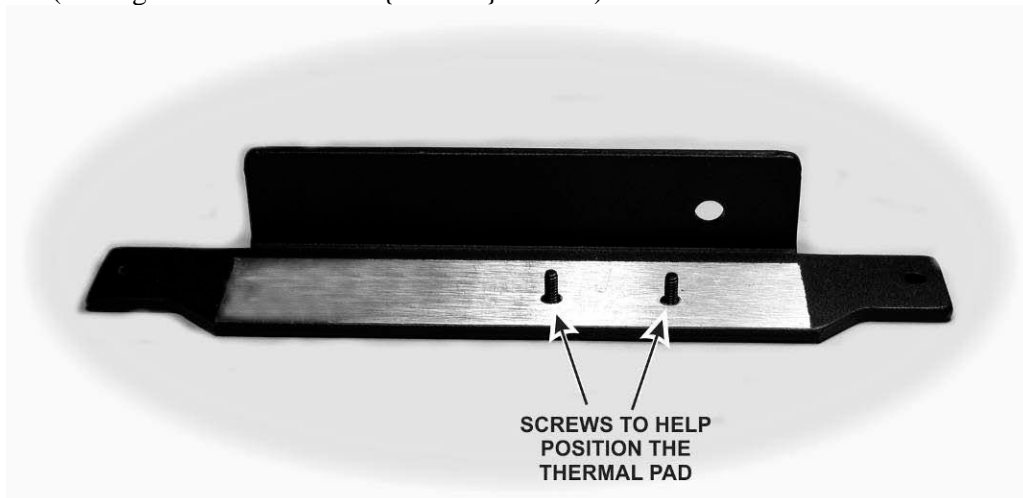

Figure 34. Heat Sink Ready for Thermal Pad.
□ Lay the heat sink down on your work table as shown Figure 34 with the two 4-40 flat head screws in the holes as shown. The screw size is not important. They are there only to help you align the thermal pad over the bare metal area. (The figure shows two 3/8" {9.5 mm} screws.)